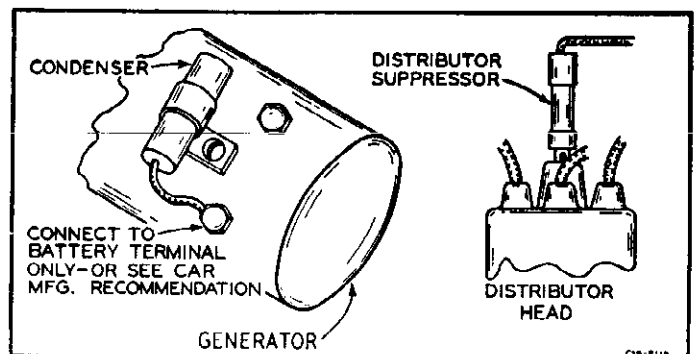

Fig. 6 — Generator Condenser and Distributor Suppressor
**DISTRIBUTOR SUPPRESSOR**—A distributor suppressor will be required in most cases. Remove the high tension lead to the distributor. Insert a distributor suppressor and connect the wire to the other end of the suppressor (See Fig. 6). If this is not practical, cut the high tension lead close to the distributor and use a wood screw end type distributor suppressor in this line.